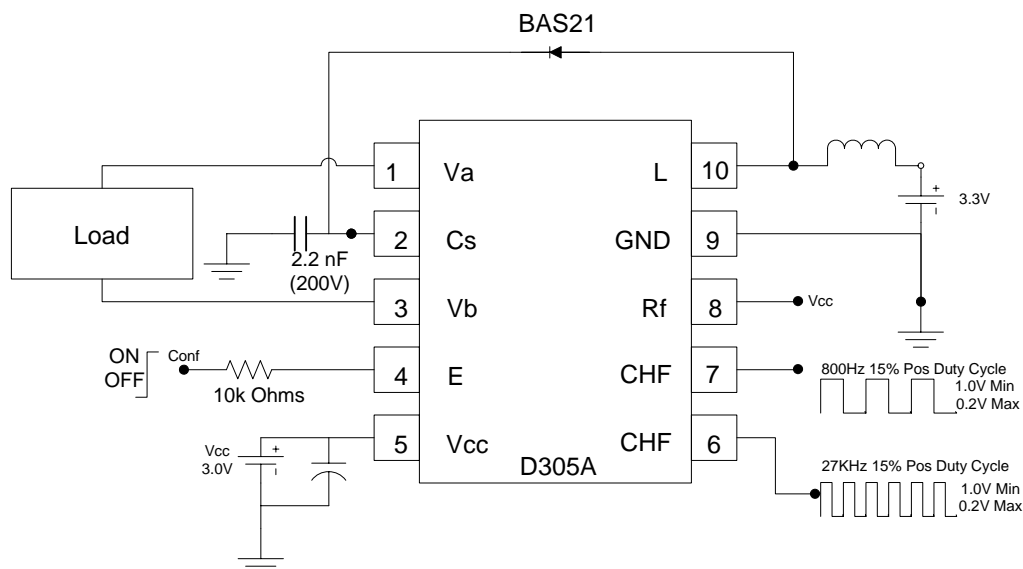
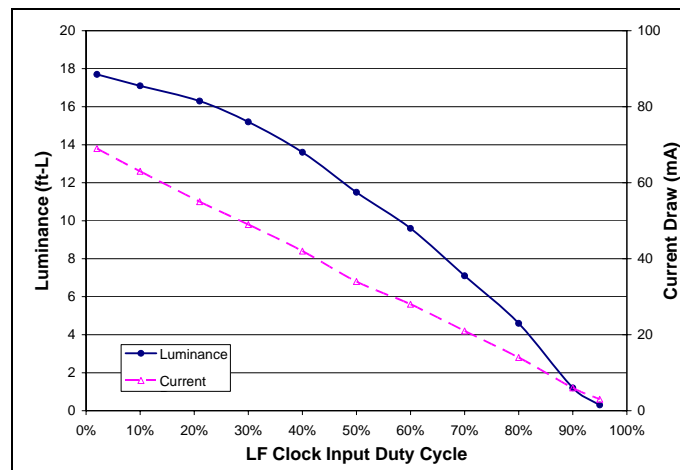
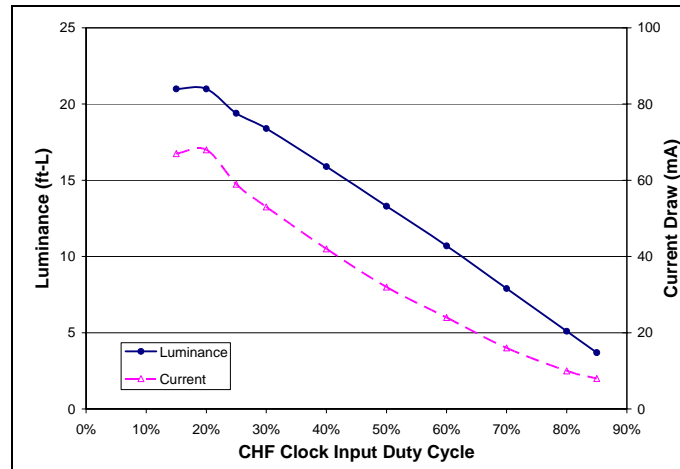

Figure 5—Frequency control via external clocks
Figure 7—Luminance and current draw vs. LF duty cycle
Figure 8—Luminance and current draw vs. CHF duty cycle
External clock signals may be used to control the D305A IC oscillator frequencies instead of adding external passive components. When clocking signals provide both the inductor charging (HF) and lamp output (LF) oscillator frequencies to drive the D305A IC, the CLF, CHF, Rf, and CRf components are no longer required. A sample configuration demonstrating this cost-saving option is shown in Figure 5 below.
Pulse width modulation of the external LF input signal may be used to regulate the brightness of the EL lamp. Figure 6 below demonstrate example of the D305A IC output waveform with pulse width modulation of the LF input signal. As the positive duty cycle of the LF input signal is increased from 15% to 100%, the charging period of the output waveform decreases, and the peak voltage of the output waveform also decreases towards zero output. Therefore, incremental dimming occurs as a result of the wave-shaping changes. This scheme may also be used inversely to regulate lamp brightness over the life of the battery or to compensate for lamp aging. Figure 7 below shows a typical dimming curve using this technique. Operation at duty cycles lower than 10% is not recommended. Clock frequency can range from 400 Hz to 2000 Hz. The maximum amplitude of the clock signal may range from 1.0V to V_{CC} . Refer back to Figure 5 for an example circuit.
Pulse width modulation of the external HF input signal also may be used to regulate the brightness of the EL lamp. As the positive duty cycle of the LF input signal is increased from 15% to 100%, the peak voltage of the output waveform decreased incrementally to zero output as the inductor charging period is affected by the HF duty cycle. Lamp dimming is thus achieved with pulse width modulation of the HF input signal to the D305A IC. This scheme may also be used inversely to regulate lamp brightness over the life of the battery or to compensate for lamp aging. Figure 8 shows a typical dimming curve with this technique. The recommended HF duty cycle range is from 10% to 95%. Clocking frequency can range from 20 KHz to 35 KHz. The maximum amplitude of the clock signal may range from 1.0V to V_{CC} . Refer back to Figure 5 for an example circuit.